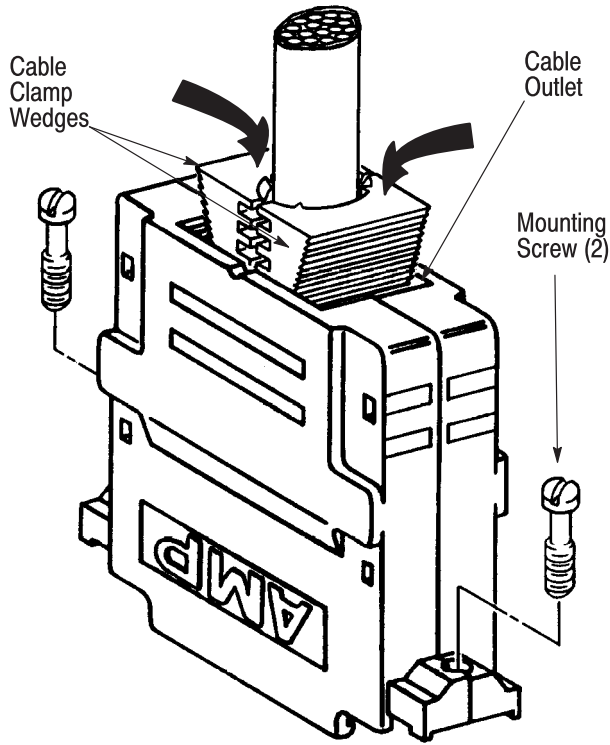

Figure 4
8. Place a wedge on either side of the cable jacket and, applying equal pressure on the wedges, force them into the cable outlet of the assembled clamp until they grip the cable jacket firmly. See Figure 4.